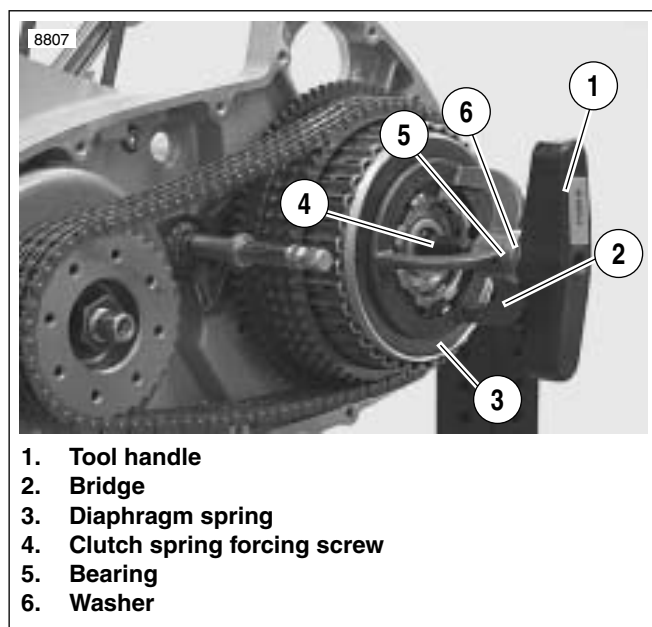

Figure 6-10. Compressing Clutch Diagram Spring
4. See Figure 6-10. Attach tools to compress clutch diaphragm spring.